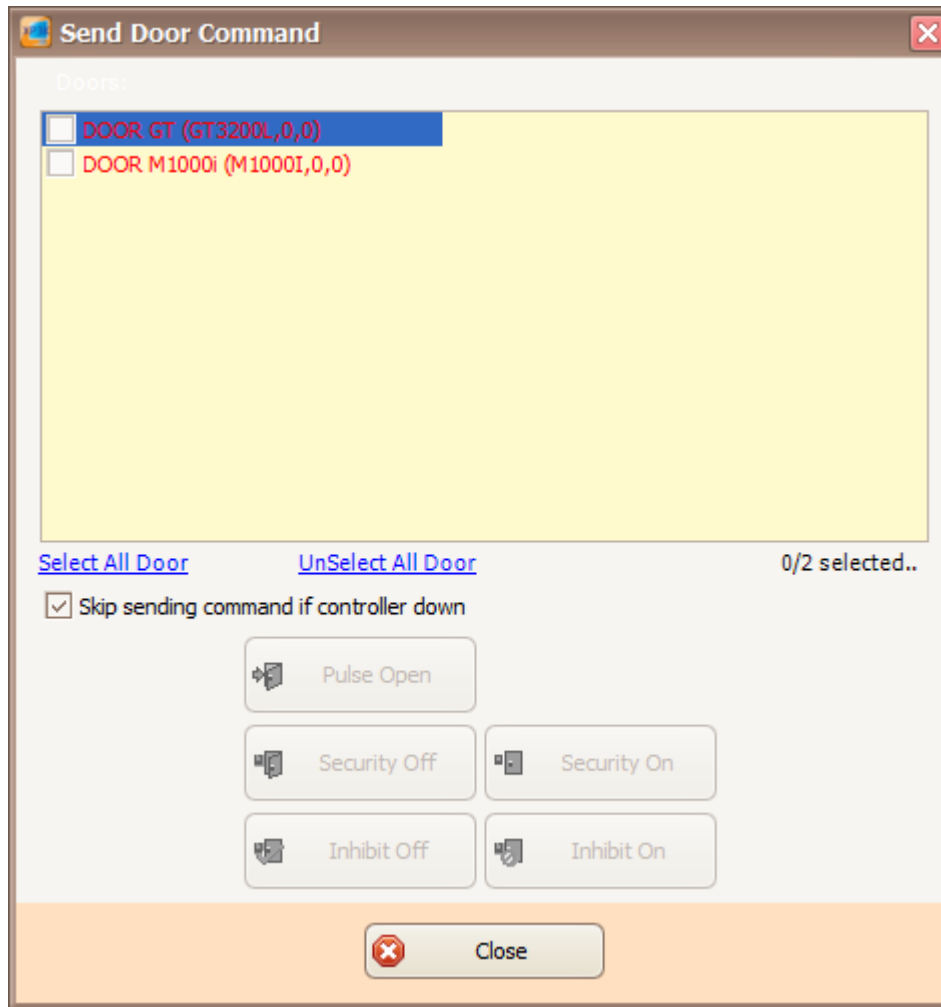

Figure 243 – Send Door Command
2. The following window will be shown (Refer **Figure 243**).